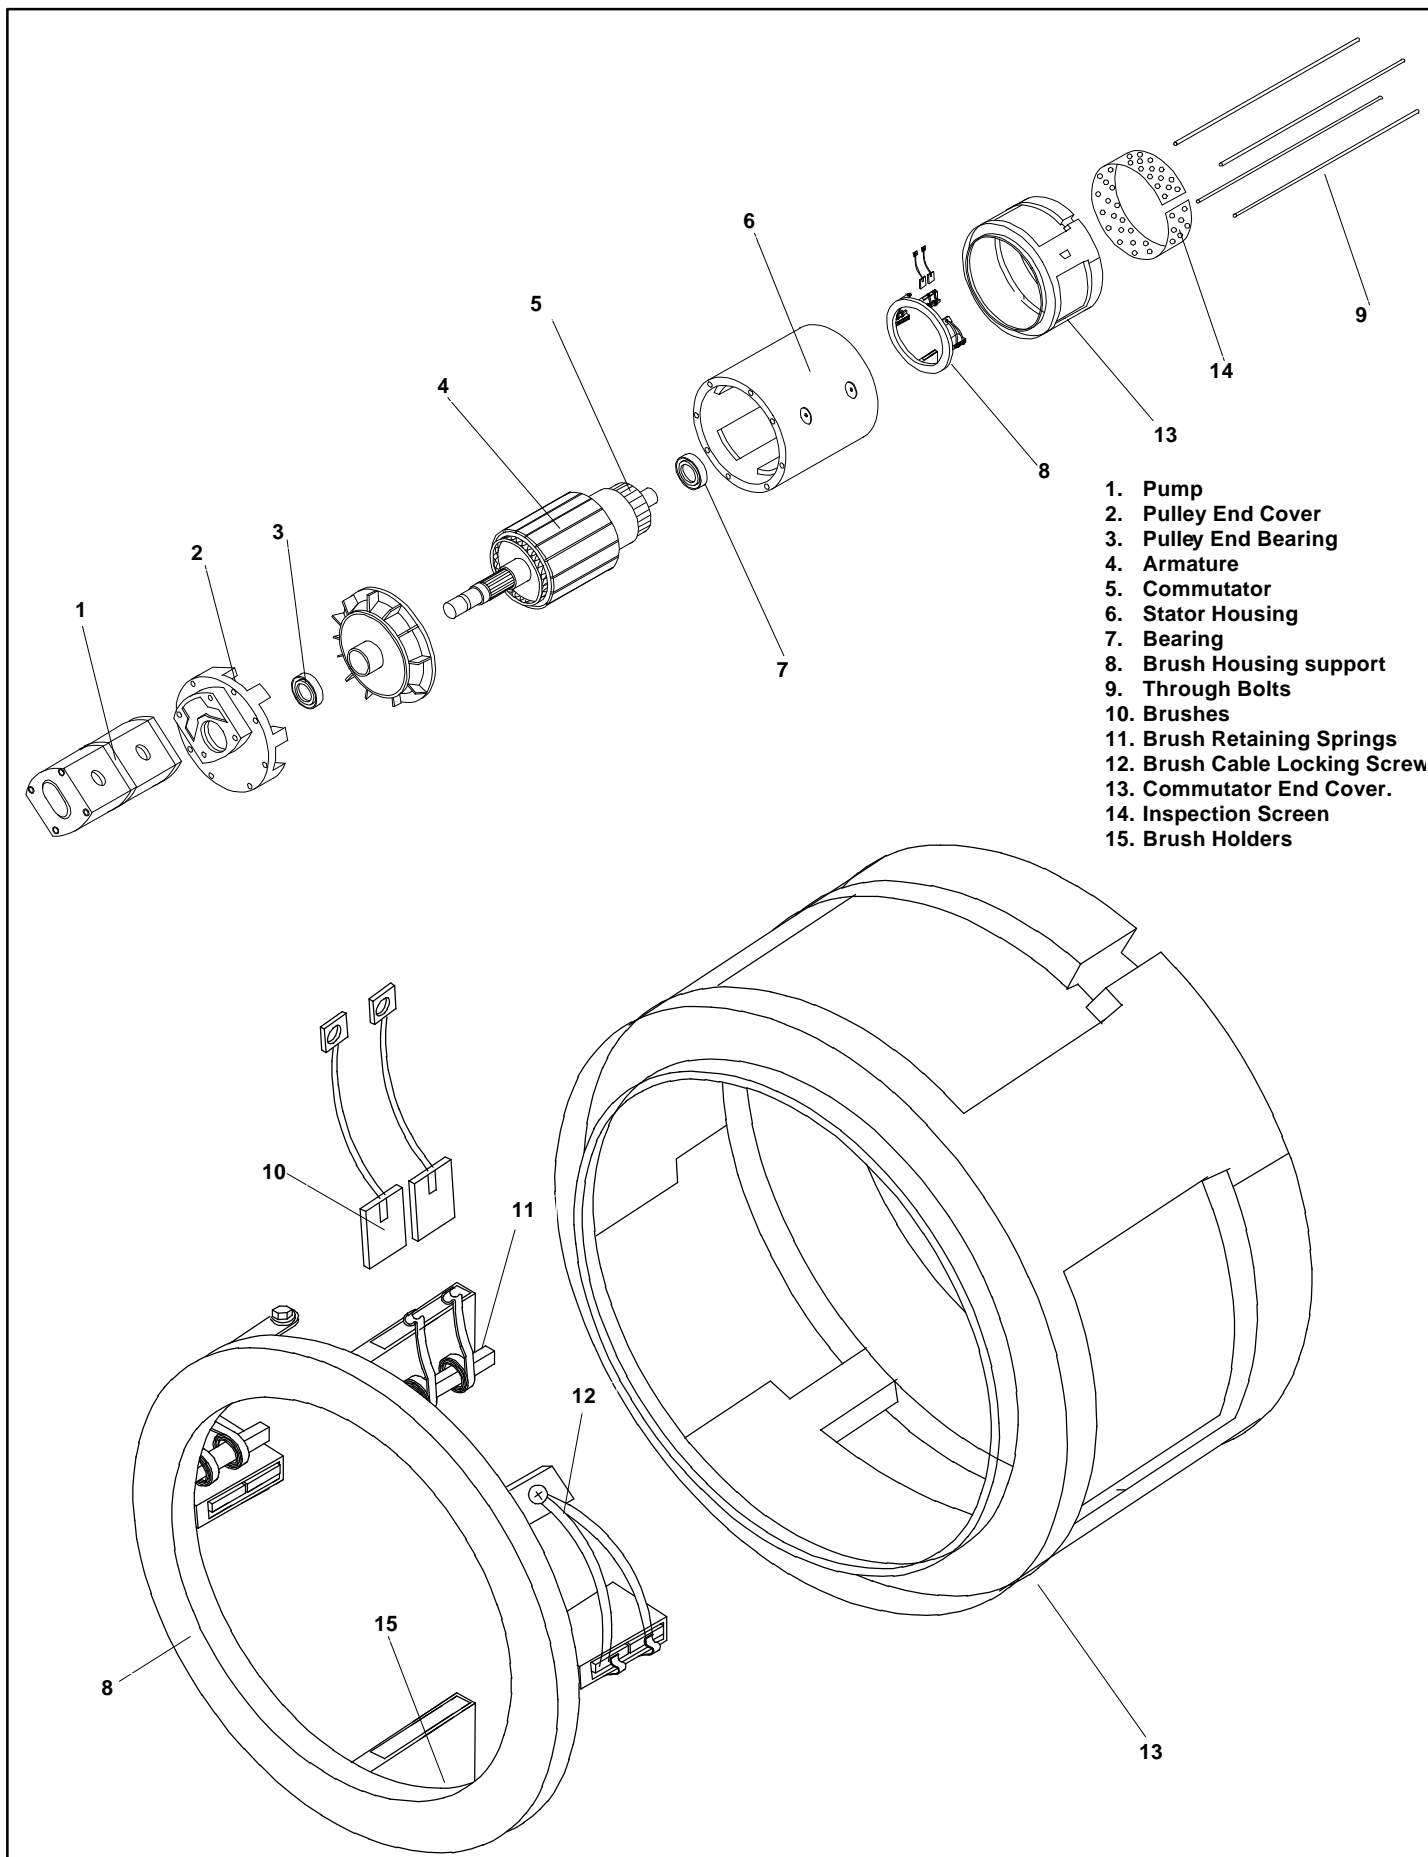

Figure 4-17: Electric Motor Assembly
4.13 Electric Motor (Figure 4-17)